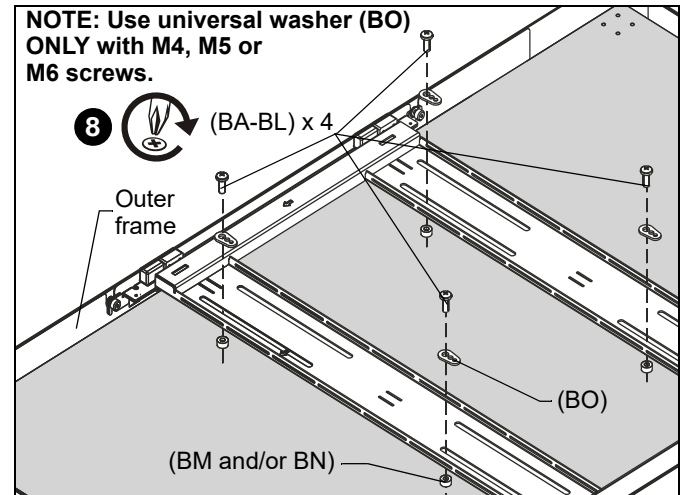

Figure 8
**IMPORTANT ! :** The M8 screws do **NOT** require a washer. Use the universal washer (BO) **ONLY** with the M4, M5 or M6 screws.
- Place hinged frame onto back of flat panel and match the VESA pattern on flat panel to the hinged frame mounting slots. Also match the threaded studs in outer frame to the hooks on the hinged frame. (See Figure 8)
- Use selected screws (BA-BL), washers (BO--if required), and spacers (BM, BN--if required), to connect hinged frame to back of flat panel. (See Figure 8)